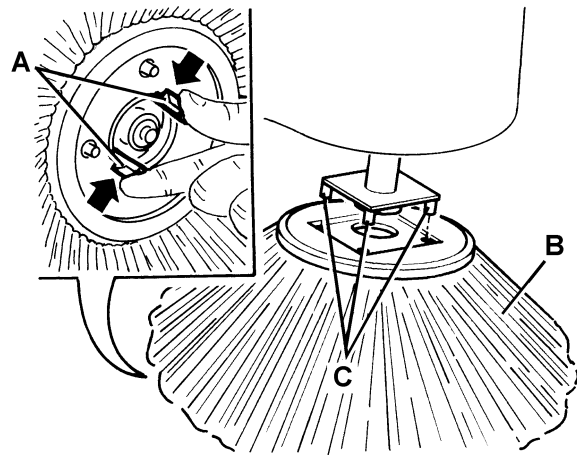

Figure 12
1. Drive the machine on a level floor and press the pedal brake (26), if equipped.
2. Turn the ignition key (71) to "0".
3. Lay the hand inside the side broom and press the tabs (A, Fig. 12) inwards, then remove the broom (B) by disengaging it from the four pins (C).
4. Install the new side broom by engaging it on the pins (C, Fig. 12) and on the tabs (A).